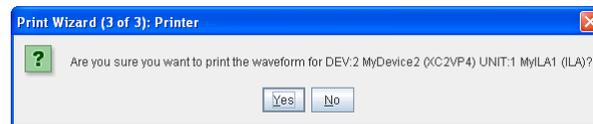

Figure 4-11: Print Wizard (3 of 3) for Sending to a Printer
3. (3 of 3) is the Print confirmation window (Figure 4-11, page 110)
In the Print Wizard (2 of 3) window, clicking on the **Send to Printer** button goes to the Print Wizard (3 of 3) Printer confirmation window (Figure 4-11). Clicking on the **Yes** button causes the waveform printout to be sent to the printer while clicking on the **No** button returns you to the Print Wizard (2 of 3) window.